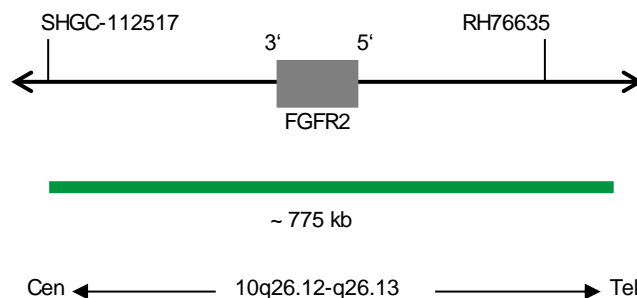

Fig. 1: SPEC FGFR2 Probe map (not to scale)
- ZyGreen (excitation 503 nm/emission 528 nm) labeled polynucleotides (~10 ng/μl), which target sequences mapping in 10q26.12-q26.13* (chr10:122,908,224-123,682,373) harboring the FGFR2 gene region (see Fig. 1).